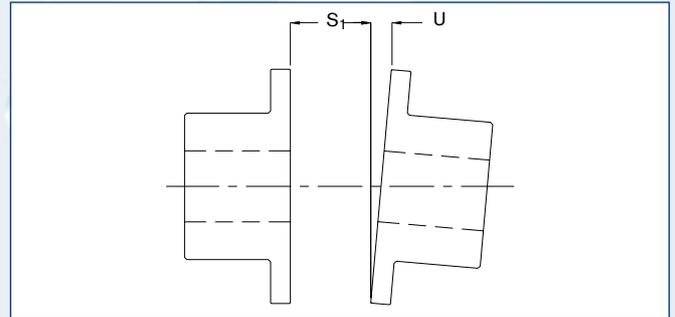

Fig. 5
3. It is a good practice to check the coupling alignment one last time after completing the assembly. This can be achieved by measuring the disc pack gap in 2 locations 180 degrees apart to find (2) lengths (Fig. 5). The difference in these two measurements should not exceed (U); see Table 7, page 55. This completes the coupling installation.